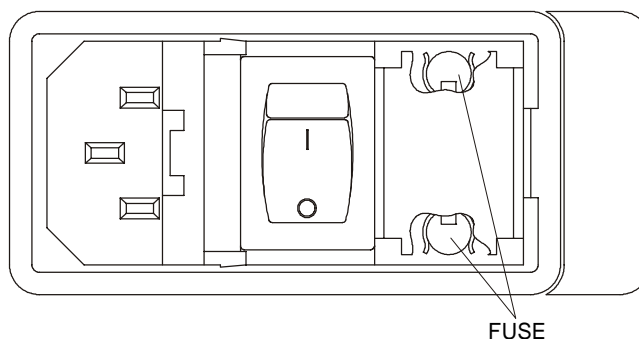

Figure 5-1: AC Fuse Replacement
2. The fuse receptacle is located in the power cord receptacle assembly in the upper left-hand corner of the control unit, on the front door. See Figure 5-1.